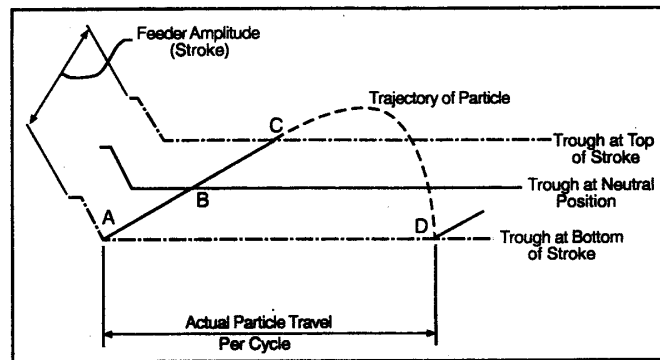

FIGURE 3: MATERIAL FLOW ON TROUGH
Figure 3 illustrates the action of a single particle of material moving along the trough surface. During a vibrating stroke, the trough surface travels from its lowest point (A) to its highest limit (C). The trough travels at its greatest velocity between (A) and (B). Although still traveling up and forward, the trough decelerates between (B) and (C). On the upward stroke, the particle of material is in contact with the trough from (A) to (C). At point (C), the velocity of the particle becomes greater than the trough, and the particle leaves the trough surface on a free flight trajectory from (C) to (D). The particle lands back on the trough surface at a position further forward (D). This completes one cycle. Each cycle imparts a forward and upward flight of material and it lands further along the trough toward the discharge.